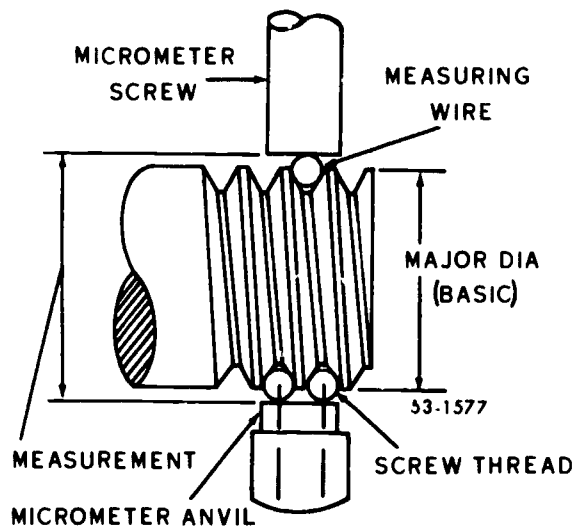

Figure 5-41. Measuring threads using three wires.
**Micrometer and wires.** The pitch diameter of a thread can be accurately measured by an ordinary micrometer and three wires, as shown in figure 5-41.